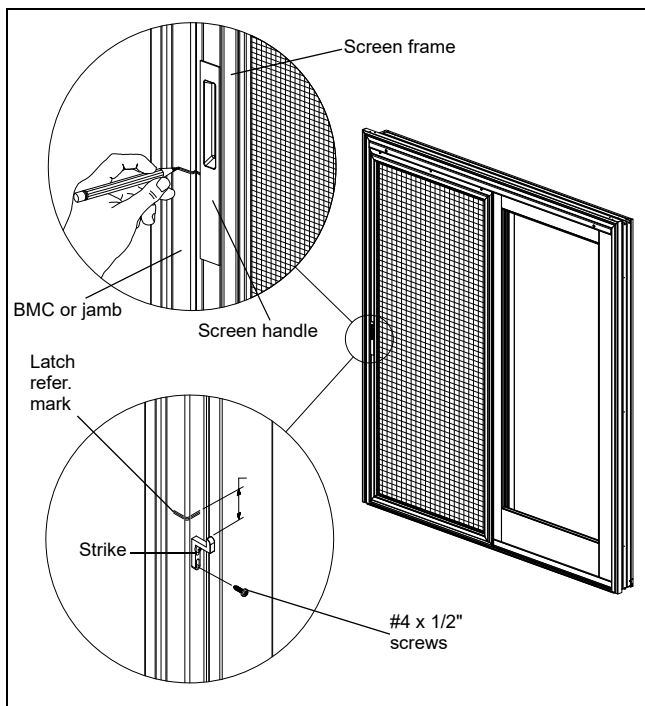

Figure 6
2. Open and slide the screen out of the way. Position strike on the jamb $1/8"$ (3) below the latch reference mark. Center the strike on the jamb so that it will fall between the interior and exterior of the screen. See figure 6. Mark the center of each screw slot on jamb. Drill pilot holes with a $3/32"$ (2) drill bit. Place the strike on jamb and fasten with the two #4 x $1/2"$ pan head screws at the center of the adjustment slots. Close screen and check latch operation. Raise or lower the strike as needed. See figure 6.